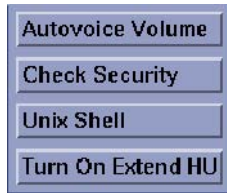

Figure 5-16 Turn On Extend HU
- 1.) For all LightSpeed RT Systems: Click on the TURN ON EXTEND HU button. See Figure 5-16